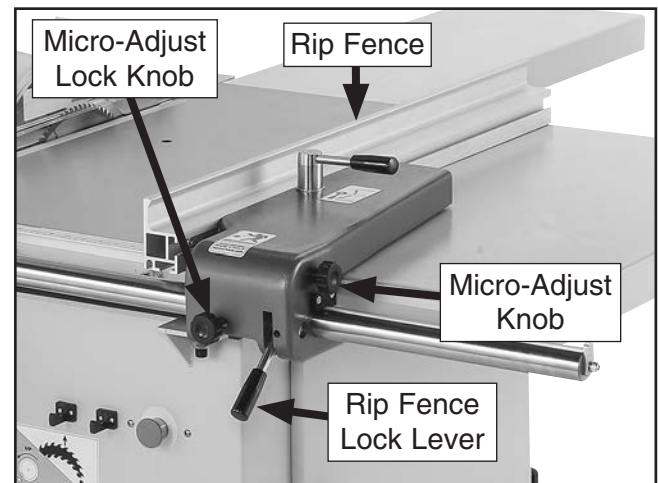

Figure 108. Proper position of rip fence.
5. Position leading edge of rip fence so it extends across extension wing, as shown in **Figure 108**, then retighten lock lever.
6. Lift rip fence lock lever (see **Figure 108**) and adjust fence to approximate width of cut.
7. Tighten micro-adjust lock knob (see **Figure 108**), then turn micro-adjust knob to fine tune width of cut.